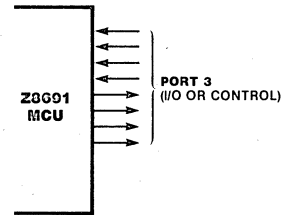

Figure 11. Port 3
**Port 3** lines can be configured as I/O or control lines (Figure 11). In either case, the direction of the eight lines is fixed as four input (P30-P33) and four output (P34-P37). For serial I/O, lines P30 and P37 are programmed as serial in and serial out, respectively.